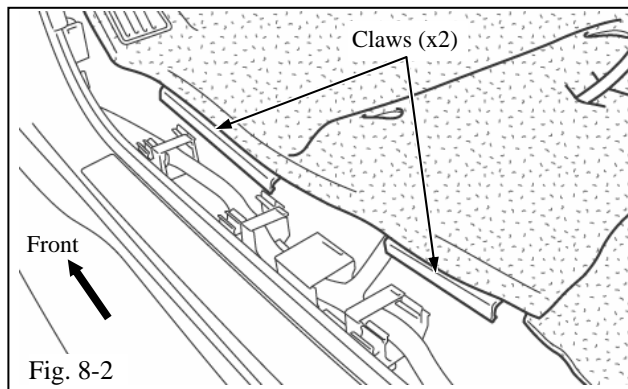

Fig. 8-2
- (d) Disengage the two (2) claws, and pull up the floor carpet on the left side. (Fig. 8-2)